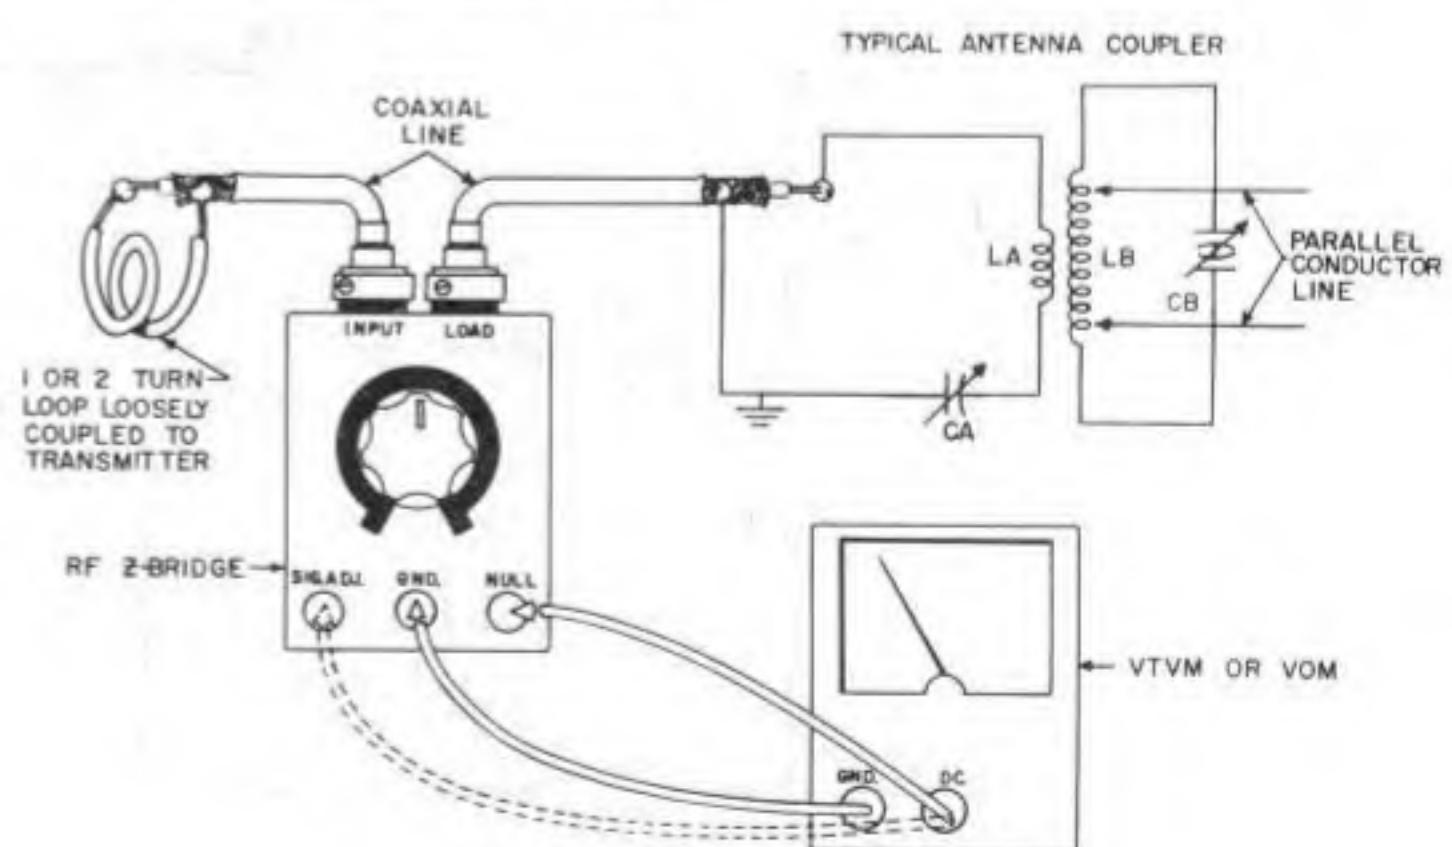

FIGURE 9. TYPICAL SET-UP USING AN ANTENNA COUPLER
**SEE FIGURE 9.**
9. Adjust  $C_a$ ,  $C_b$ , and the taps on the antenna coupler (See Figure 9) until the best possible null is obtained. This adjustment provides the best match between the transmission line and the transmitter. To get the broadest frequency response, try to obtain the null with  $C_a$  near maximum and with the taps on  $L_b$  as far apart as possible. Keep the taps equidistant from the center.